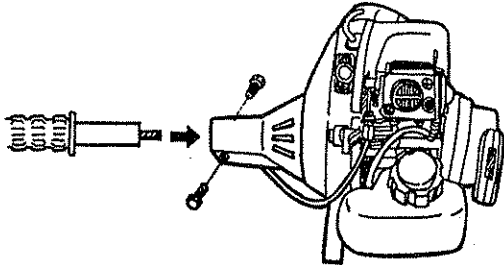

Figure 1
2. Using the bolts provided, fit pipe shaft to engine. Figure 1.